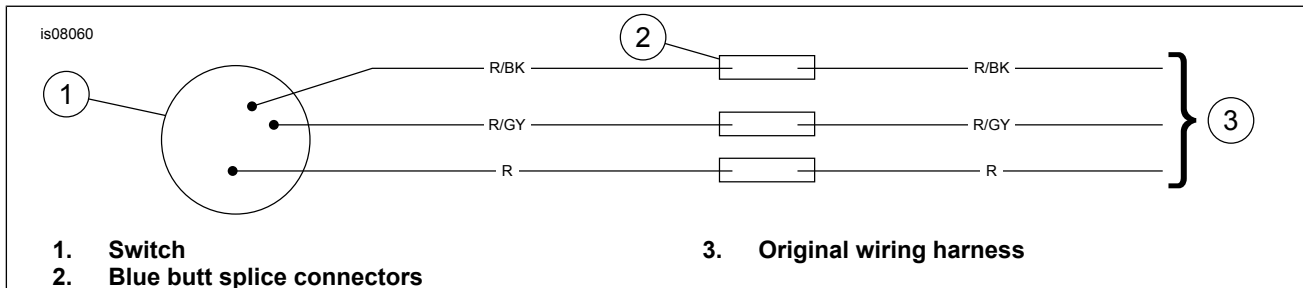
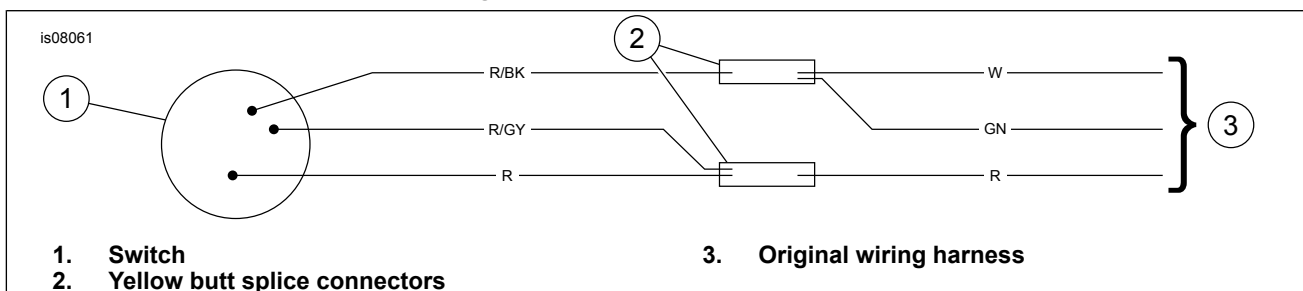
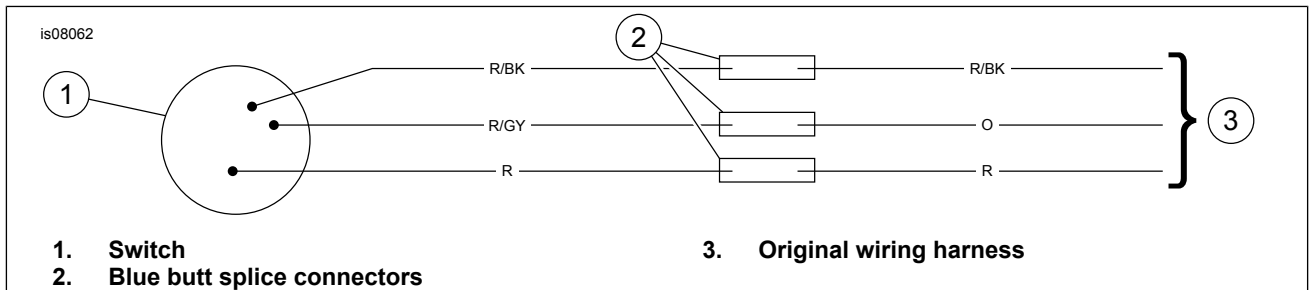
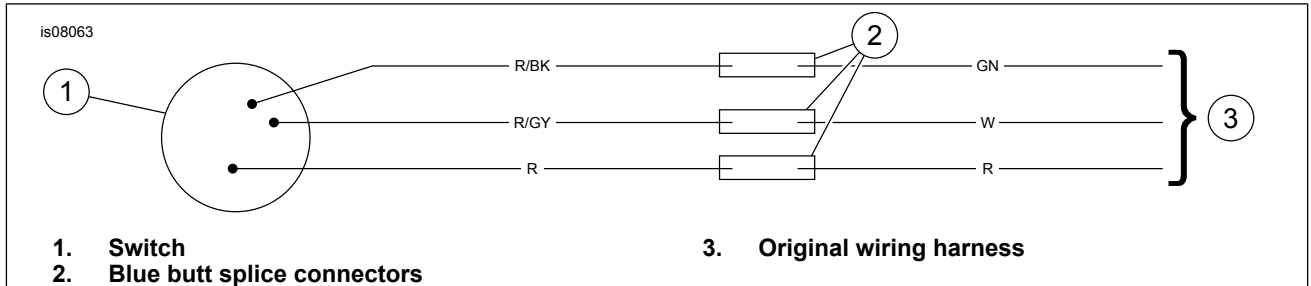

Figure 2. 1994 and Later XL Models
Figure 3. 1993 and Earlier Civilian Models and 1984 (Except 1986 - 1992 FXRT/FXRD with Radio and Except 1991 - 1994 FXRP)
Figure 4. 1986 - 1992 FXRT/FXRD Models with Radio
Figure 5. 1991 - 1994 FXRP Models
See Figure 2 and Table 1.
3. Perform the following model specific wiring procedure (See Installing Wire Splice section of this Instruction Sheet.) See Figure 2, Figure 4 and Figure 5. Switch must be spliced into existing wiring harness using three blue (small) butt splice connectors. Use heat-shrink tubing around all three butt splice connectors for cosmetic purposes. Use cable strap as required to secure switch wires. See Figure 3. Switch must be spliced into existing wiring harness using two yellow (large) butt splice connectors. Use heat-shrink tubing around both butt splice connectors for cosmetic purposes. Use cable strap as required to secure switch wires.
1. See Figure 2, Figure 3, Figure 4 and Figure 5. Using a wire cutter, cut off wires of new ignition switch approximately 3 in. (76.2 mm) from switch body. Cut off ring terminals from ends of original wiring harness wires, leaving sufficient harness length to splice wiring and properly mount new switch.